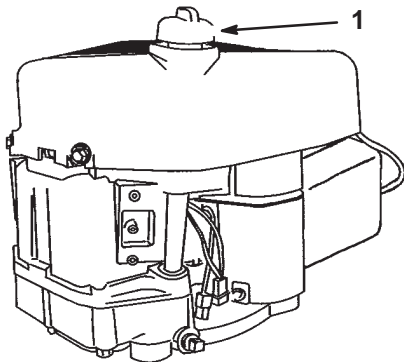

Figure 16
2. Clean around the oil dipstick (Fig. 16) so that dirt cannot fall into the fill hole and damage the engine.
10. Clean around the oil dipstick and unscrew the cap (Fig. 16).
11. Slowly pour approximately 80% of the specified oil into the filler tube (Fig. 16). Refer to Servicing the Engine Oil, page 22.